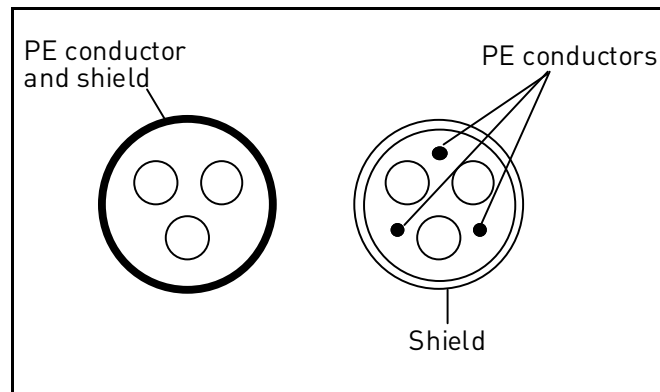

Figure 13.
- 2 = Symmetrical power cable equipped with concentric protection wire and intended for the specific mains voltage. (MCMK or similar recommended). See Figure 13.
- 3 = Symmetrical power cable equipped with compact low-impedance shield and intended for the specific mains voltage. [MCCMK, EMC MK or similar recommended; Recommended cable transfer impedance (1...30MHz) max. 100mohm/m]. See Figure 13.